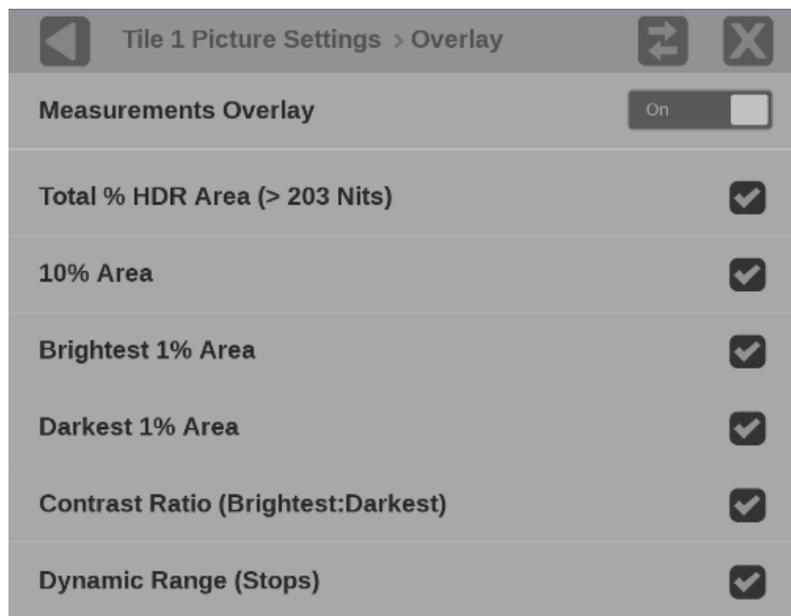

Figure 111: Picture Settings with Measurement Overlay menu
3. Set Measurements Overlay to **On**. (See Figure 111.) This turns on the measurements overlay in the Picture application. After it is visible, the overlay window can be dragged to any location in the Picture tile.